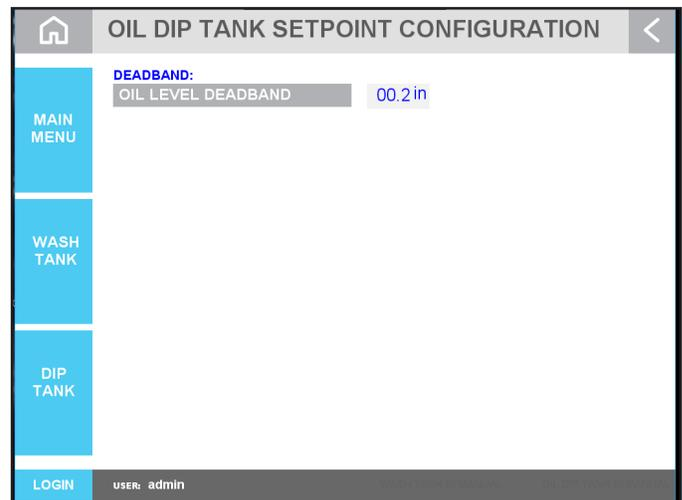

Figure 7.2: Wash Tank Set Point Configuration Screen
3. From this screen the **OIL LEVEL DEADBAND** can be set [Figure 7.2].